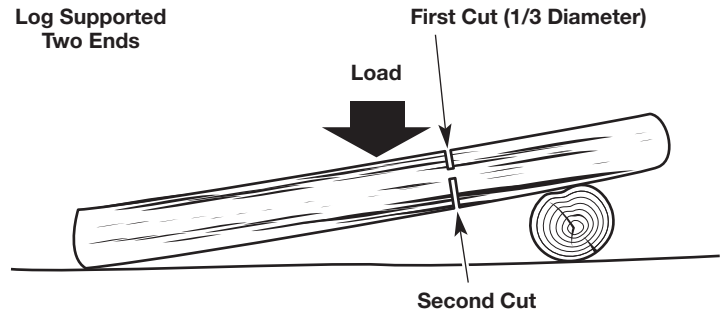

Fig. 23
- If the log is supported on two ends (Fig. 23), make the first cut from above (overbucking). Refer to *Overbucking*.